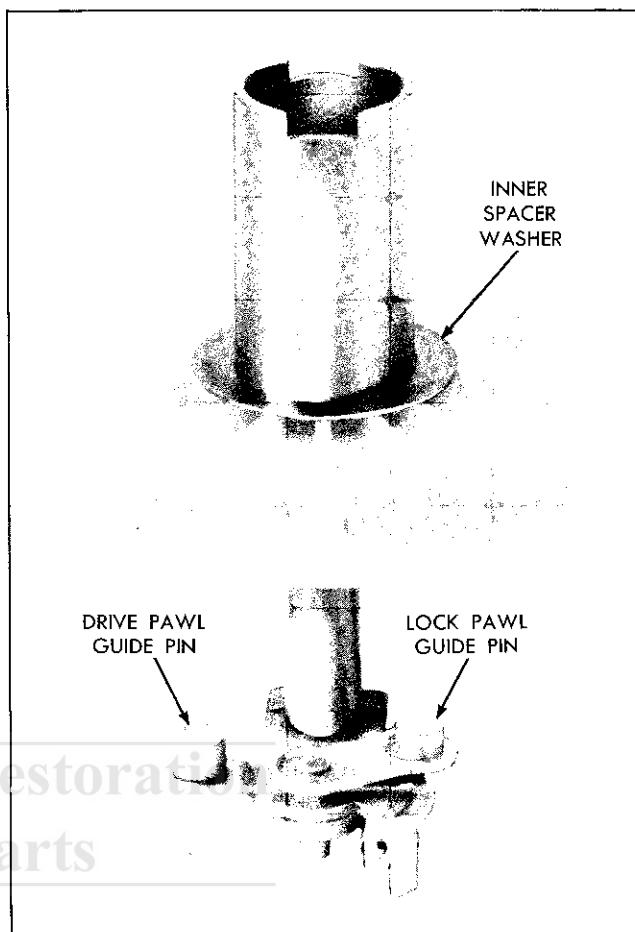

Fig. 12-40 Installing Gear and Drive Shaft—Pontiac
3. Slide gear and tube over the drive shaft (Fig. 12-40). Make drive and lock pawls as required to allow their respective pins to fit in gear guide channel.